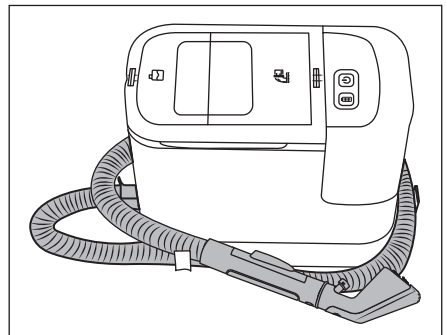

Fig. 4
- ◆ Pull the hose holder **15** out of the appliance. Place the spray/suction hose **19** around the appliance using the hose holders **15/16** (see Fig. 4).